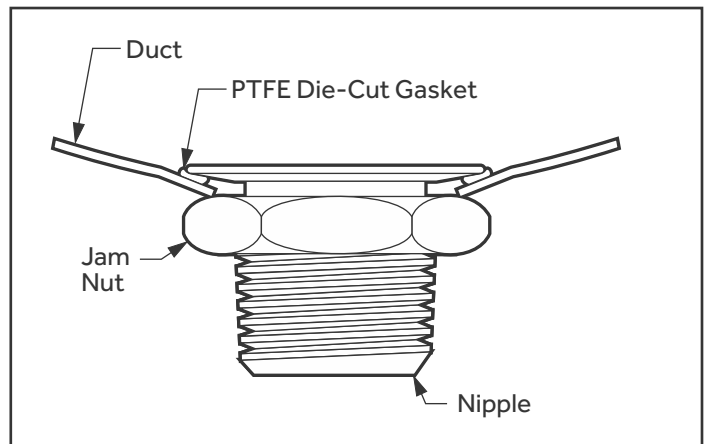

Fig. 41: Field Installed Nipple Configuration
5. Install Nipple: Remove backing and apply die-cut PermaShield Gasket to the inside flange of the test port. Place the test port in the swaged hole from inside the duct. Thread the matching jam nut onto the test port and tighten until snug. Using the appropriate size wrench on the jam nut and the flats on the test port, tighten the jam nut until there is resistance to further tightening. Installation is complete. (Fig. 41)